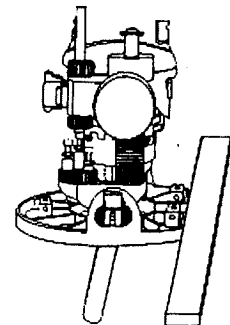

Fig. 20
1. Draw a line on the workpiece where you wish to make the cut (see Fig. 20).